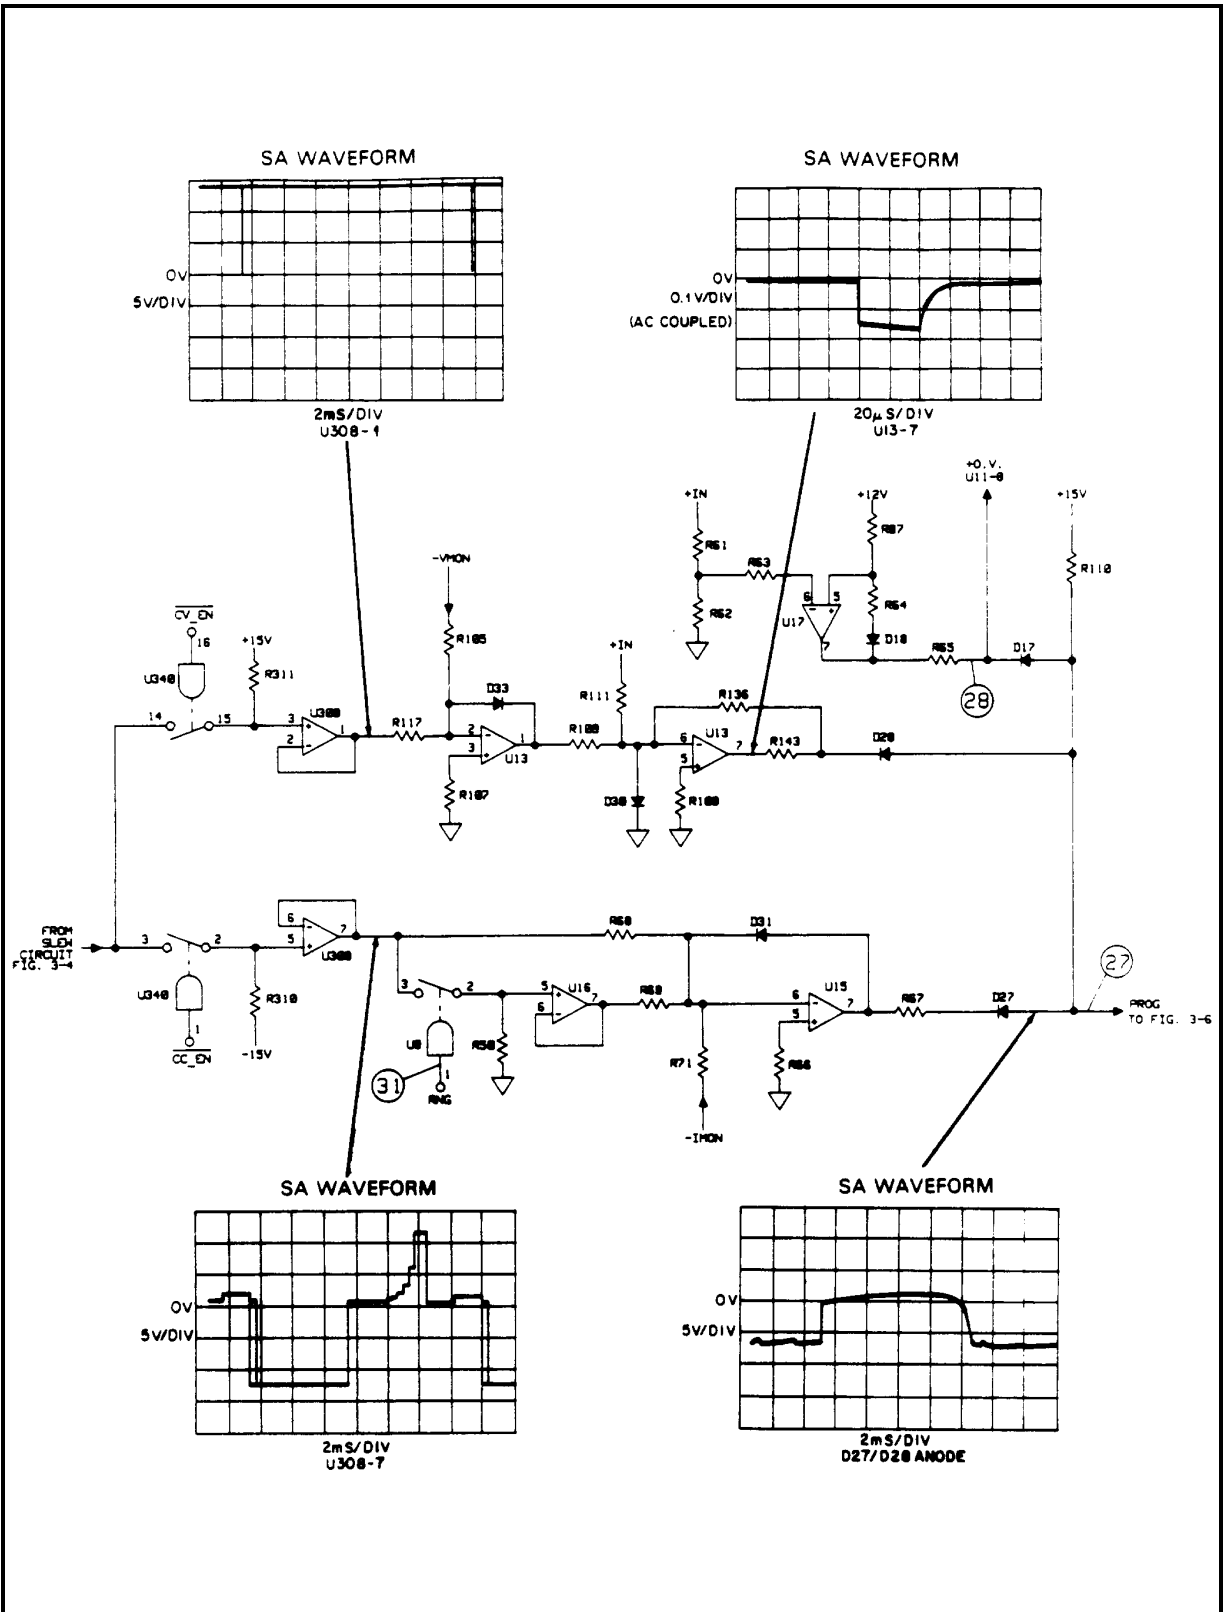

Figure 3-5. CC/CV Control Circuits Troubleshooting
CC/CV Control Circuit Troubleshooting (Figure 3-5)
The overvoltage (OV) circuit (U17, D17) is also shown on Figure 3-5. When an OV condition is detected, the OV circuit generates a negative signal via diode D17 which causes the input power stages to increase current flow in order to limit the input voltage. The OV condition is detected when the input voltage exceeds 75V. When activated the OV circuit takes control from the CC or CV control circuit.
To troubleshoot the CV or CC circuits, place the Electronic Load in the SA mode by connecting the jumpers in test headers TP201 and TP301 in the SA mode positions (see Figure 3-2). The waveforms shown in Figure 3-5 can only be generated when SA mode is on. If the waveforms are correct but a problem exists, troubleshoot the input power stages as described in the next section.